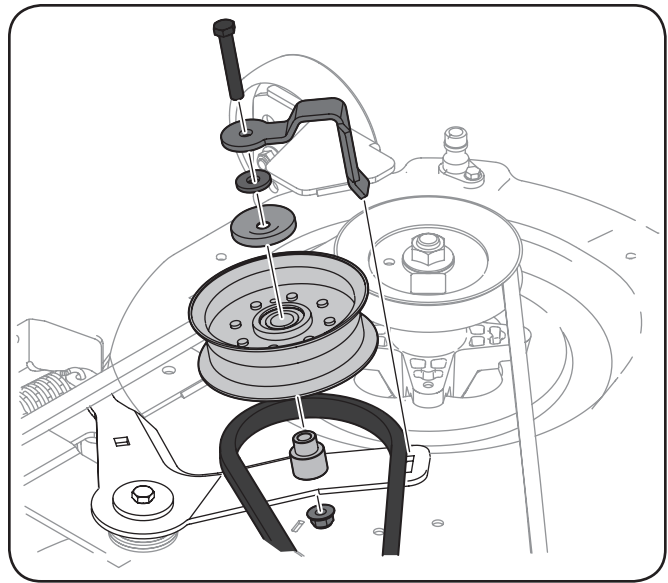

Figure 7-8
3. Loosen and remove the hardware securing the left deck idler pulley, belt keeper, washer and spacers to the idler bracket. See Figure 7-8.
6. Then route the belt around the right deck idler pulley and the left pulley as it is installed on the idler bracket being sure to include the spacers, washer and belt keeper as shown in Figure 7-8.